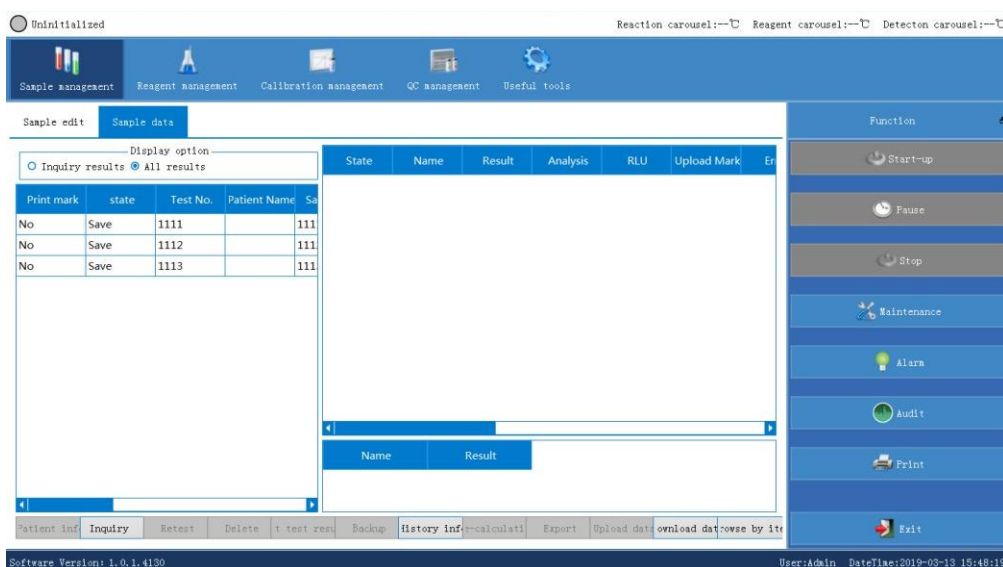

Figure. 8.3.11 Sample data
Select **Sample data** under **Sample management**, as shown in Figure 8.3.11.
Figure 8.3.11 shows all sample data information by default in the sample data list.
- Click **Inquiry** on the interface of Figure 8.3.11.
- Select the results for inquiry in Figure 8.3.11 interface, the sample data list will show the search results.
As shown in Figure 8.3.11, the tested samples/items on the sample data list can be retested.
- In the test item list in Figure 8.3.11, select the item to be edited
- Enter the number to edit and click **Save**. The edited result will be displayed on the test item list in Figure 8.3.11.
- Select the sample to be backed up in the sample data list of the interface shown in Figure 8.3.11
- Click **Sample history** in Figure 8.3.11 to display the historical information interface.
- Select the sample or project to be exported in Figure 8.3.11
- In Figure 8.3.11, select the item to be recalculated, determine the calibration curve of the recalculation of the item, set the curve as default in the **Calibration curve** interface under **Calibration management**
Select the items that require the dilution multiple editing in the test item list as shown in Figure 8.3.11 and click **Edit dilution multiple**, a dialogue box will pop up for the editing of the dilution multiple. Please input the required info and click **Save**. The dilution multiple after editing will show in the test item list in Figure 8.3.11.